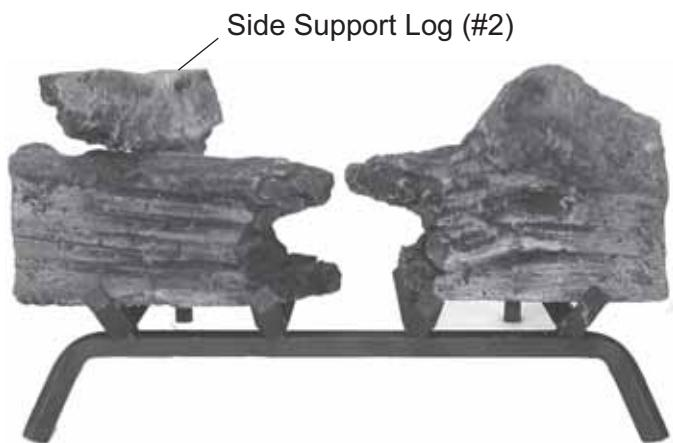

Figure 96 - Placing Side Support Log (#2) on Top Left of Log #1A
4. Place front end of Side Support Log #2 on top left of Log #1A. Rest other end of Log #2 on rear grate bar. *See Figure 96.*